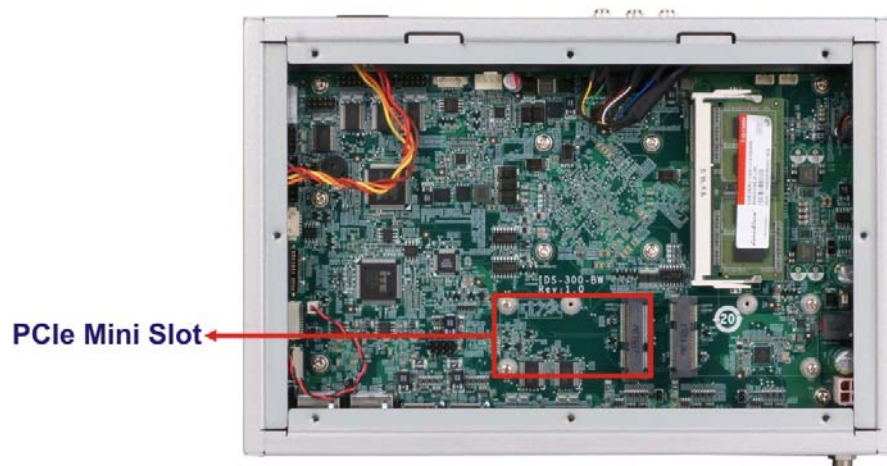

Figure 3-11: PCIe Mini Slot Location
Step 3: Locate the PCIe Mini slot (**Figure 3-11**).